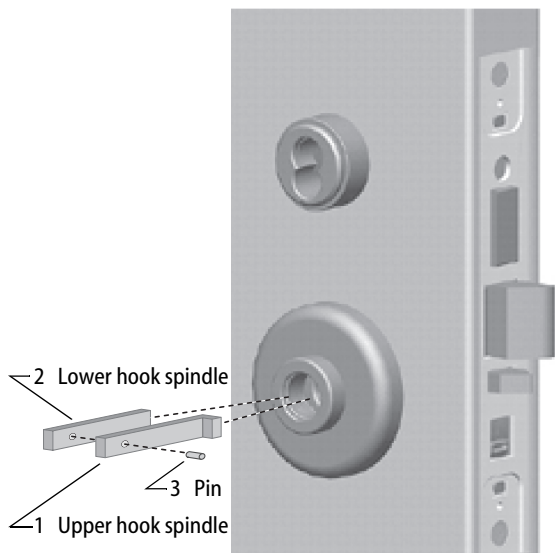

Figure 15b Installing the hook spindle
For one side only lever installation (Figure 15b)
- 1 Insert the upper hook spindle into the hub cavity with the hook towards the latch as shown in Figure 15b.